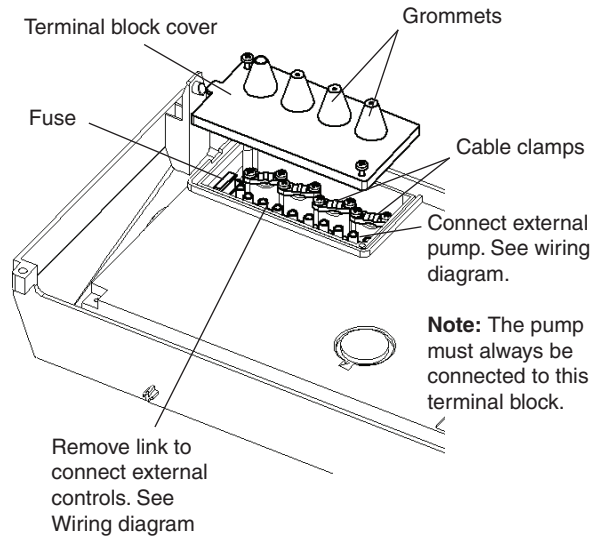

Fig. 4.13
4.9 CONNECT THE MAINS SUPPLY - Fig. 4.13
Remove the two screws securing the terminal block cover from the back of the control box (see Fig. 4.13). Pass the mains supply cable through the grommet and cable clamp and connect as follows:- Brown to L, Blue to N and Green/Yellow to \perp . Ensure correct polarity.